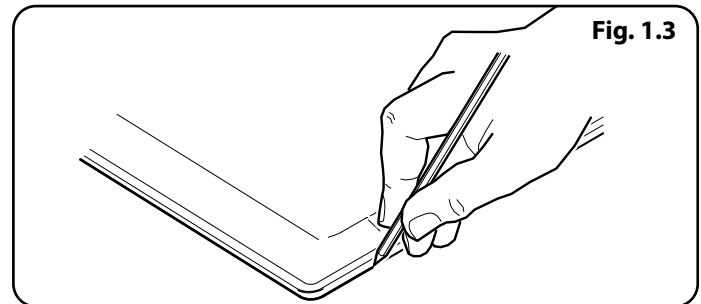

Fig. 1.3
1. Place the sink upside down on the worktop. Position the sink on the worktop as required. Make sure the cabinet framework will clear all parts of the sink. Using a soft, sharp pencil draw around the sink as accurately as possible (Fig. 1.3). Remove the sink.